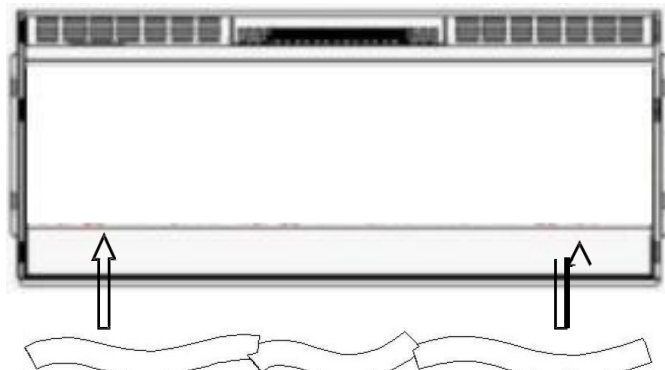

Figure 1.
- C. If you want your fire with the log effect, remove the log effect from its packaging and reverse the order of steps A and B, completing the fuel-bed installation, see Figure 1. If you prefer the pebble effect, remove the log effect from the fire and place the media tray holder (H) onto the bottom tray. Next, carefully place the pebbles (G) onto the bottom tray as illustrated below. Apply an even layer from side to side, see Figure 2 and Figure 3. Reverse the order of steps A and B, completing the fuel-bed installation.